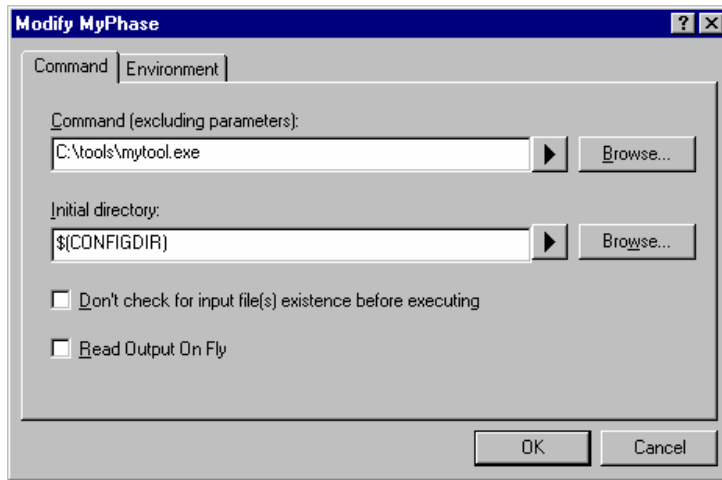

Figure 3.7: Modify Phase Dialog Command Tab
2. Click the “Modify...” button. The modify phase dialog will be invoked with the “Command” tab selected (figure 3.7).